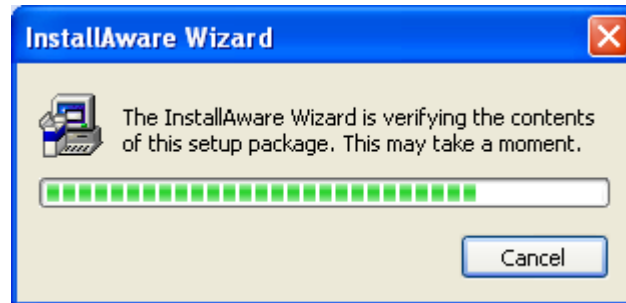

Figure 77 - InstallAware Wizard Verification Window
2. If the MatrikonOPC InstallAware screen does not automatically appear, double-click the installation .exe file. The **MatrikonOPC Server – InstallAware Wizard** verifies its contents (Figure 77).